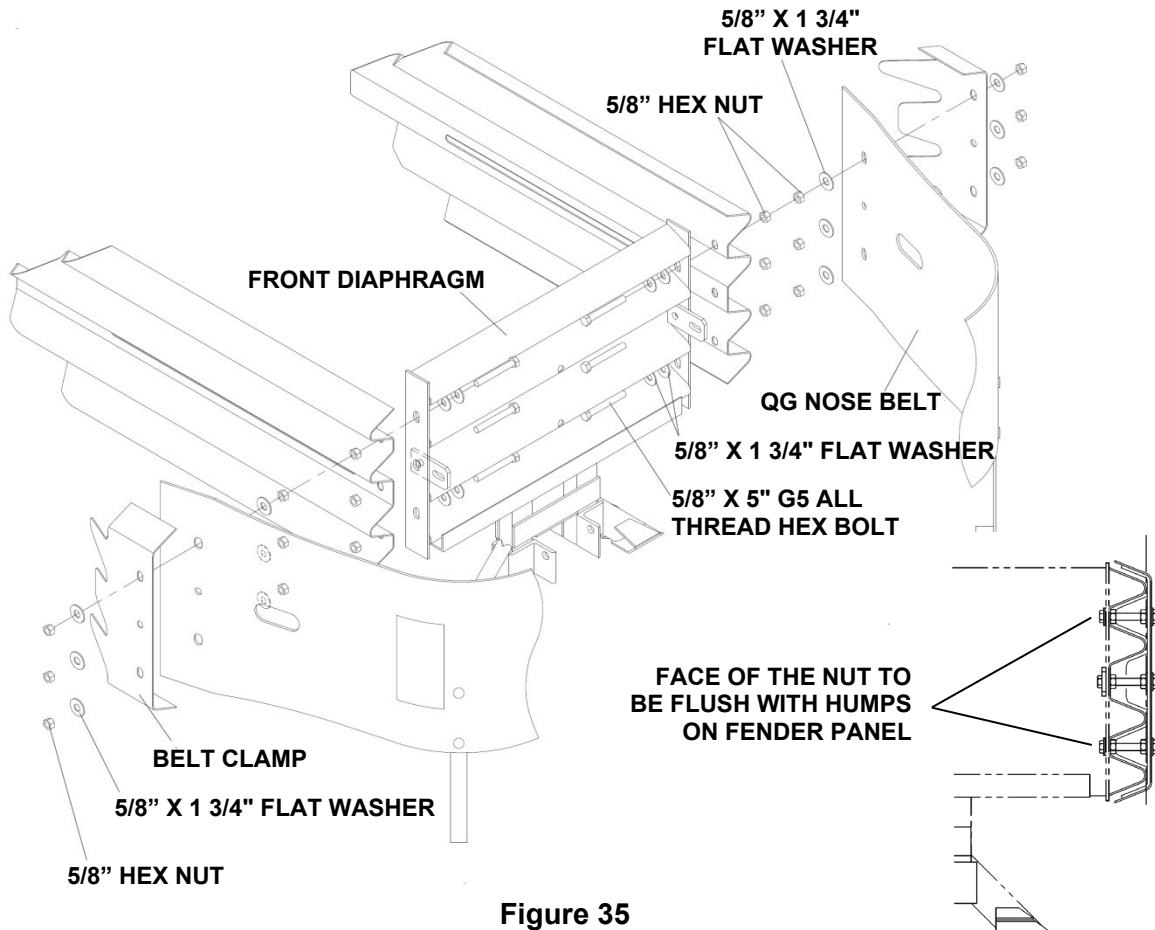

Figure 35
- a. Using 5/8" x 5" hex bolt, two (2) 5/8" x 1 3/4" flat washers and 5/8" hex nut, attach Fender Panel to front Diaphragm top and bottom as shown in Figure 35 (two places per side).
- c. Thread second 5/8" nuts onto the attached bolts. Be sure the faces of the nuts are flush with humps on Fender Panels (Figure 35). Slide third 5/8" x 1 3/4" flat washers onto bolts (three places per side).